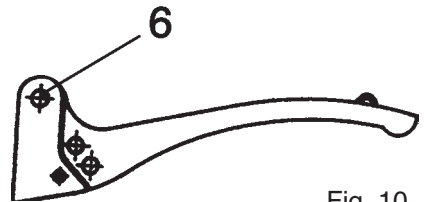

Fig. 10
5. Avoid an excessive tightening of screws 6 as this would prevent the lever return, loosen if necessary (Fig. 10).